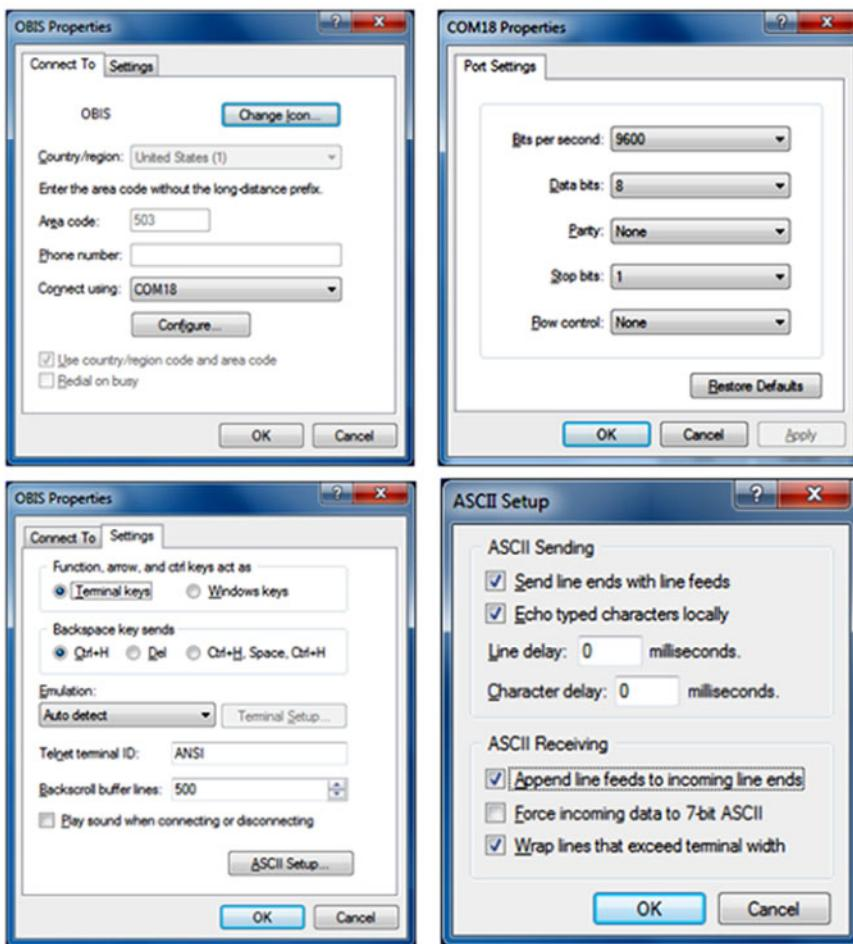

Figure 6-6. Recommended Terminal Menu Settings
4. Select the COM port that is assigned to the OBIS laser (see Step 1) and follow the recommended terminal menu settings shown in the example in Figure 6-6.